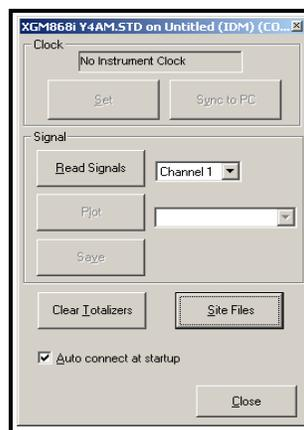

Figure 5-4: The *Properties* Window
3. The *Properties* window appears similar to Figure 5-4 below. To clear the XGM868i totalizers, click on the [Clear Totalizers] button. The XGM868i totalizers are reset to 0.